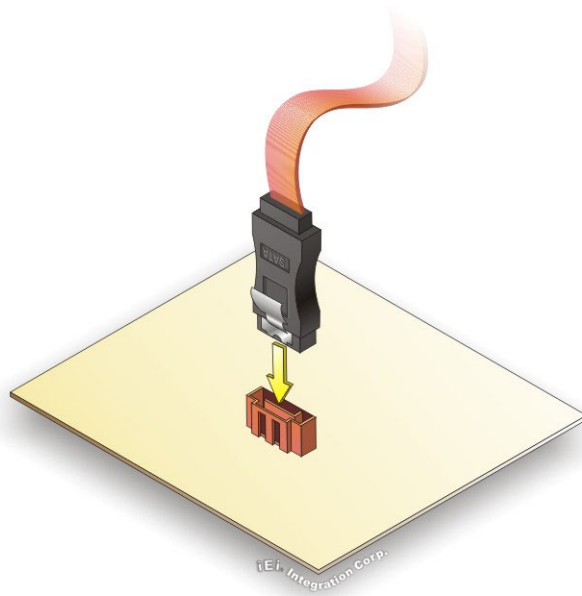

Figure 4-21: SATA Drive Cable Connection
Step 2: Insert the cable connector. Insert the cable connector into the on-board SATA drive connector until it clips into place. See **Figure 4-21**.